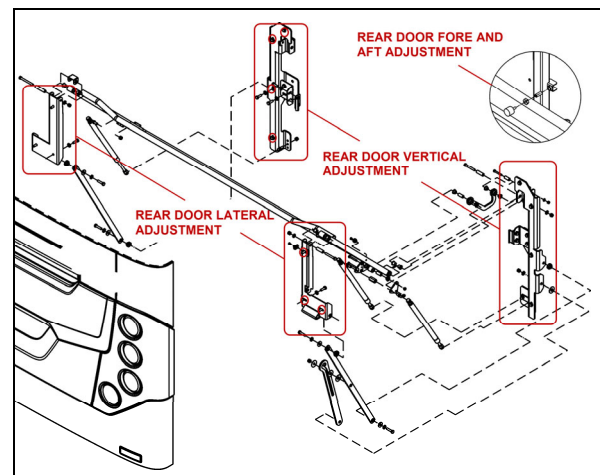

FIGURE 46: ENGINE COMPARTMENT DOOR
1. To adjust the door VERTICAL position, loosen the bolts (4 on each side) holding the door supporting arm and gas springs bracket to the vehicle structure (Figure 46).
2. To adjust the door LATERAL position, loosen the bolts (3 on each side) holding the door supporting arm and gas springs bracket to the door (Figure 46).
3. Adjust the door FORE & AFT position by screwing/unscrewing the rubber door stops on each side of the door opening (Figure 46).